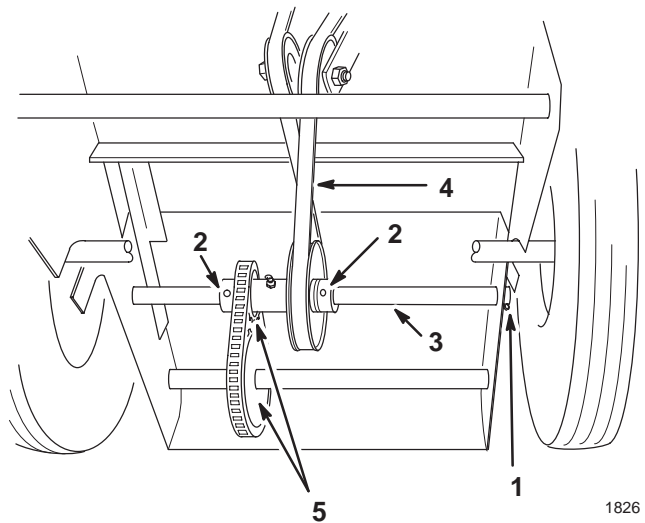

Figure 29
14. Remove the cotter pin from the end of the traction drive shaft, loosen the set screw in each of the collars, and tap the shaft to the left far enough so the new belt can be installed (Fig. 29).
15. Install the belt around the drive shaft pulley (Fig. 29).
Important The belt must be installed as shown in Figure 29 or the traction drive will run backward.
16. Return the shaft to its original position, secure the collars with the set screws, and the shaft with the cotter pin (Fig. 29).
17. Ensure that the sprockets are aligned properly (Fig. 29).